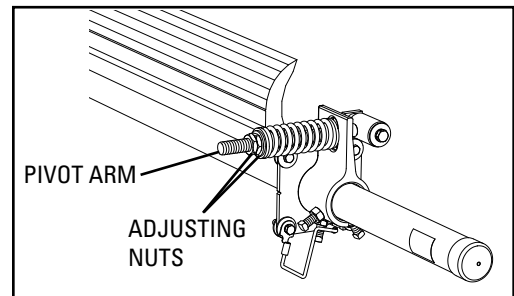

Fig. 1
- 1. Remove the tension.** Loosen the adjusting nuts and turn them out until they are flush with the pivot arm (Fig. 1). This releases the tension of the blade on the belt.